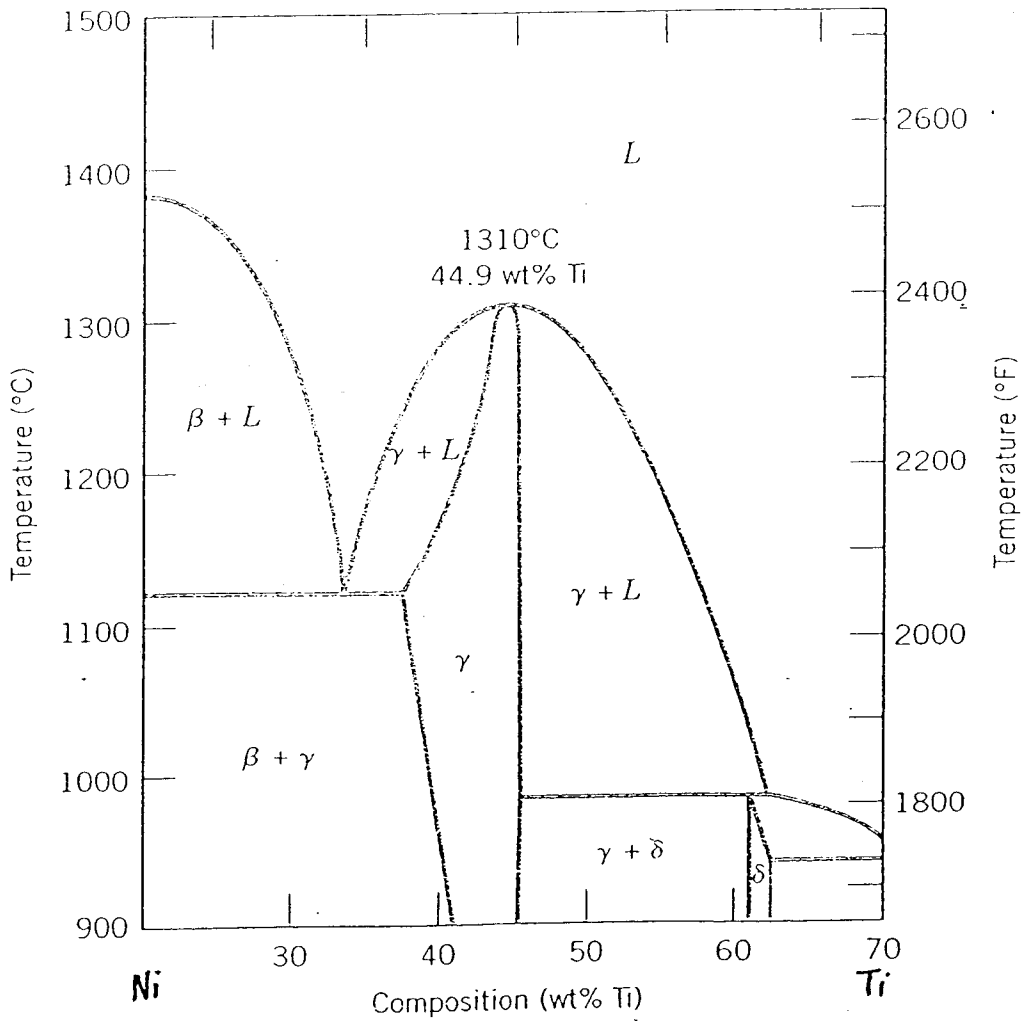

Figure 2
2. [a] Use the phase diagram for the Ni – Ti binary system Figure 2 to answer the following questions: